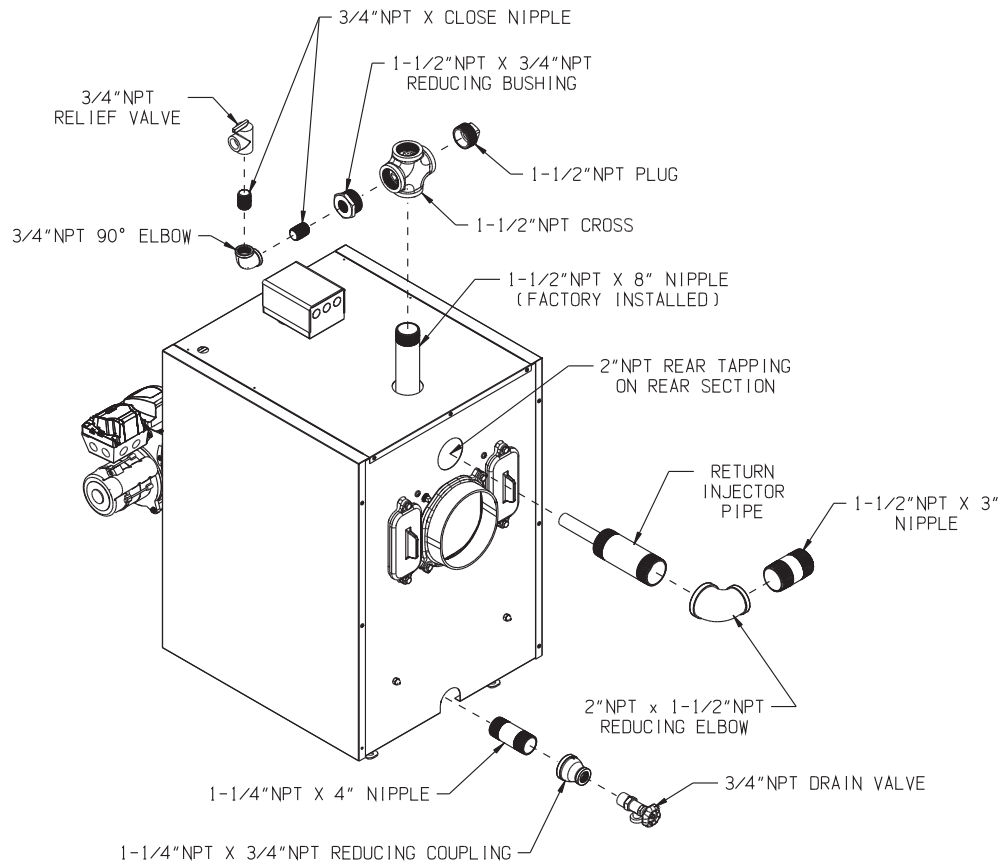

FIGURE 8.1: INSTALLATION OF FACTORY SUPPLIED PIPING
- 1) **Relief valve (Required)** - Mount the relief valve on the rear of the boiler as shown in Figure 8.1 using the fittings provided. The relief valve shipped with the boiler is set to open at 30 psi. This valve may be replaced with one having a pressure up to the “Maximum Allowable Working Pressure” shown on the rating plate. If the valve is replaced, the replacement must have a relief capacity in excess of the heating capacity for the boiler.
- 2) **Return Injector Pipe** - The return injector distributes water evenly throughout the heat exchanger and also helps to minimize the possibility of thermal shock. Install it in the upper-rear tapping as shown in Figure 8.1. The 2 x 1-1/2” reducing elbow can be oriented in any direction.
- 11) Drain Valve - The drain valve is shipped in the boiler parts bag. Install it in the bottom-rear of the boiler return as shown in Figure 8.1.